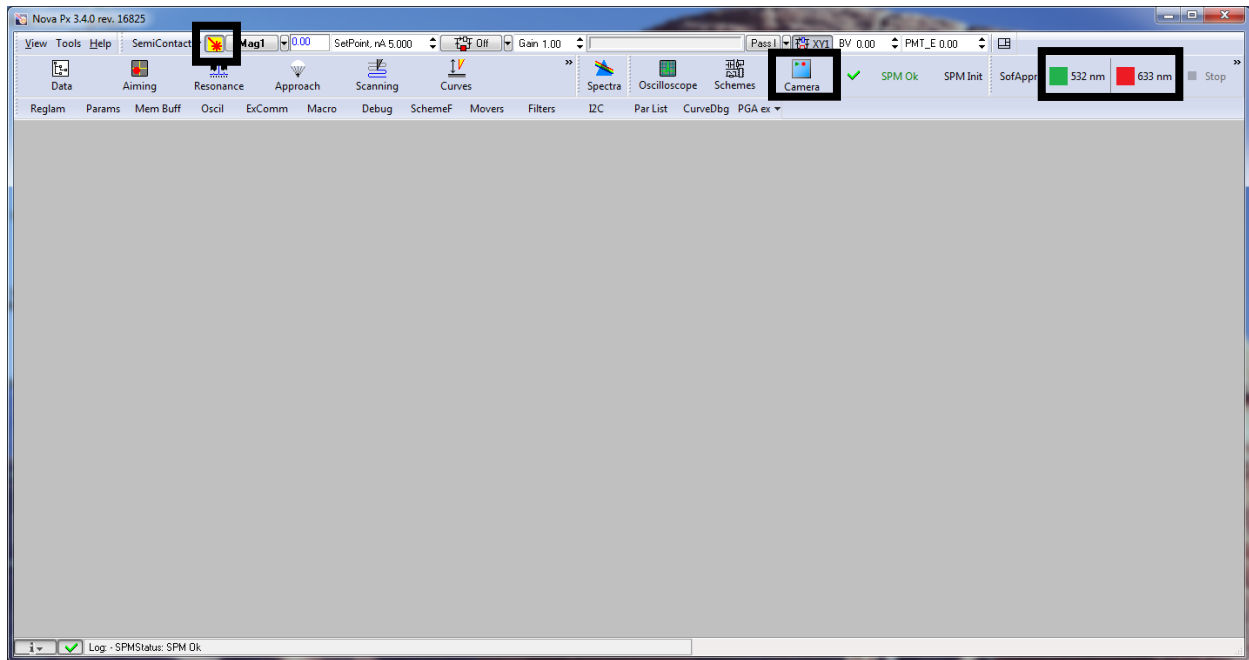

Figure 1: Nova Px main screen
- Select desired laser for analysis (Figure 1).